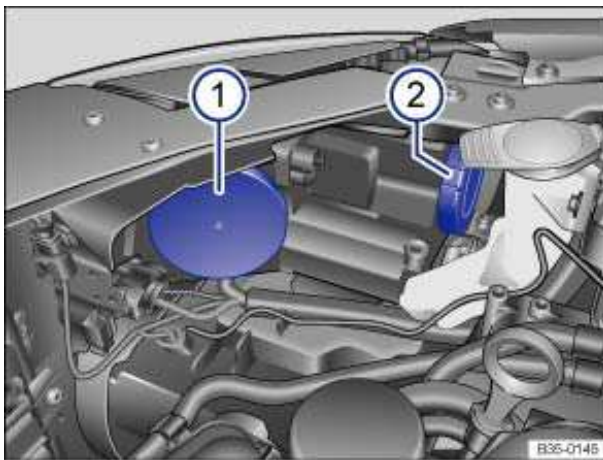
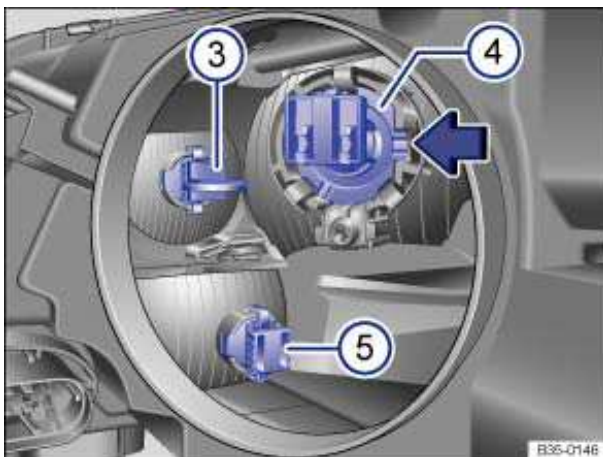

Fig. 186 In the engine compartment: Cover for HID headlights 1, cornering light, daytime running light, parking light and turn signal 2.
Fig. 187 Removing and installing the bulbs for the daytime running light and parking light 3, cornering light 4 or turn signal 5.
3.	Pull the rubber cover on the rear side of the headlight to the side ⇒ fig. 186 (2) .
4.	Remove the bulb holder ⇒ fig. 187 (3) with the bulb and pull it toward the rear out of the headlight housing.
7.	Insert the bulb holder with the new bulb in the original position in the headlight housing (3) .
8.	Install the rubber cover ⇒ fig. 186 (2) .
3.	Pull the rubber cover on the rear side of the headlight to the side (2) .
4.	Press in the direction of the arrow to remove the bulb holder ⇒ fig. 187 (4) with the bulb and pull it toward the rear out of the headlight housing.
7.	Insert the bulb holder with the new bulb in the original position in the headlight housing (4) and press opposite to the direction of the arrow. The front of the bulb holder must fit correctly in the cutout on the headlight housing (arrow).
9.	Install the rubber cover ⇒ fig. 186 (2) .
4.	Press downward to remove the bulb holder ⇒ fig. 187 (5) with the bulb and pull it toward the rear out of the headlight housing.
7.	Insert the bulb holder with the new bulb in the original position in the headlight housing (5) and press upward.